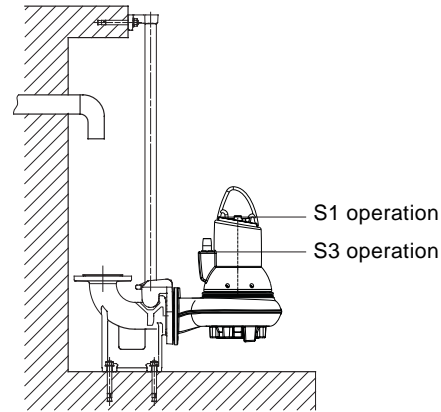

Fig. 2 Stop levels
- **S1 operation** (continuous operation), the pump must always be covered by the pumped liquid to the top of the motor. See fig. 2.
- **S3 operation** (intermittent operation), the pump must always be covered by the pumped liquid up to the middle of the motor. See fig. 2.